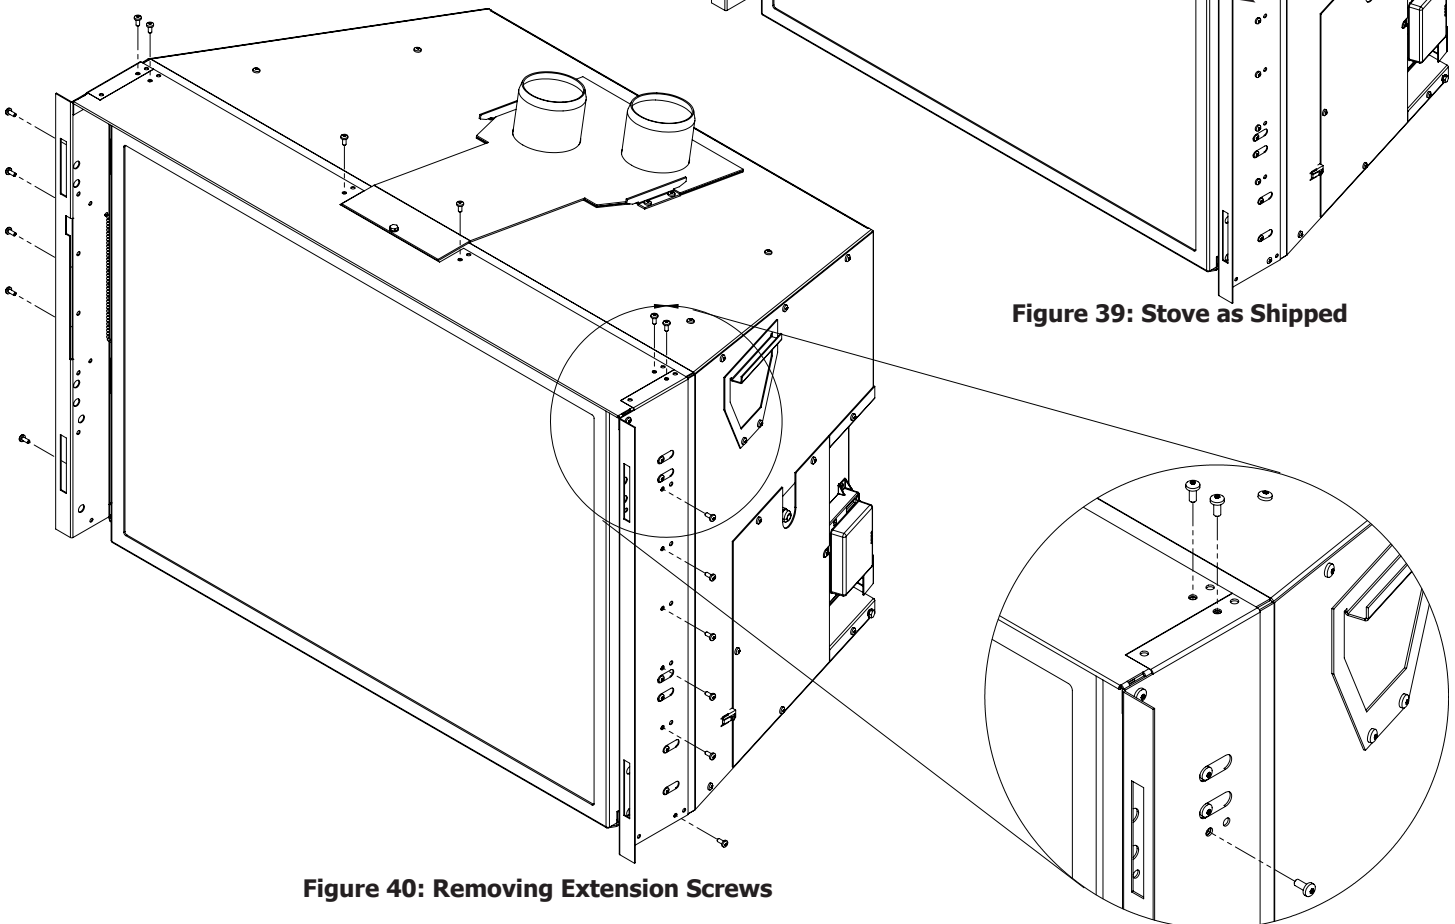

Figure 40: Removing Extension Screws
1. Using a T20 screwdriver, remove the four (4) screws that secure the Top Extension to the Cabinet (see Figure 40).
2. Remove the six (6) screws on each Side Extension (see Figure 40).